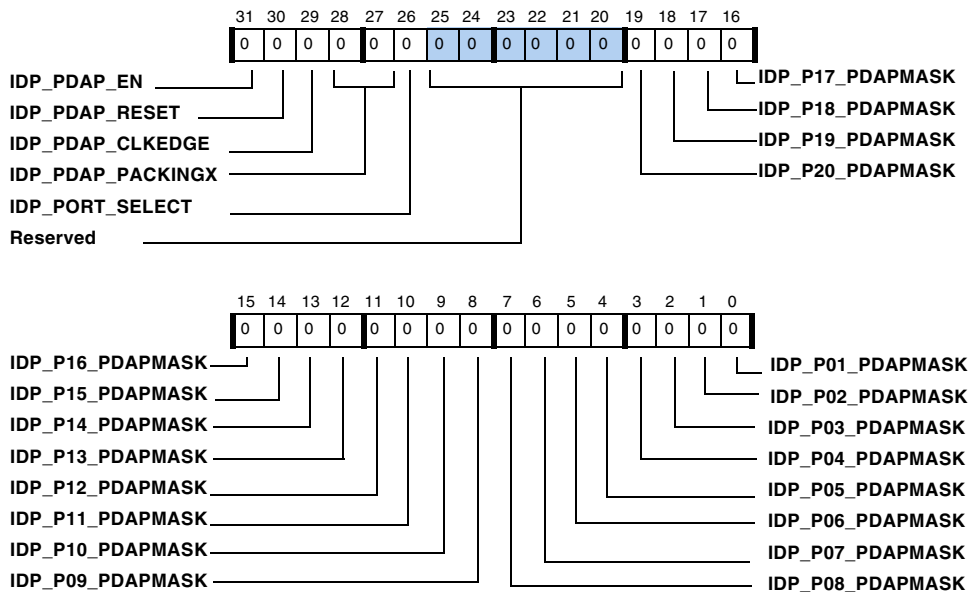

Figure A-67. IDP\_PDAP\_CTL Register
- IDP\_PDAP\_CTL, described in Figure A-67